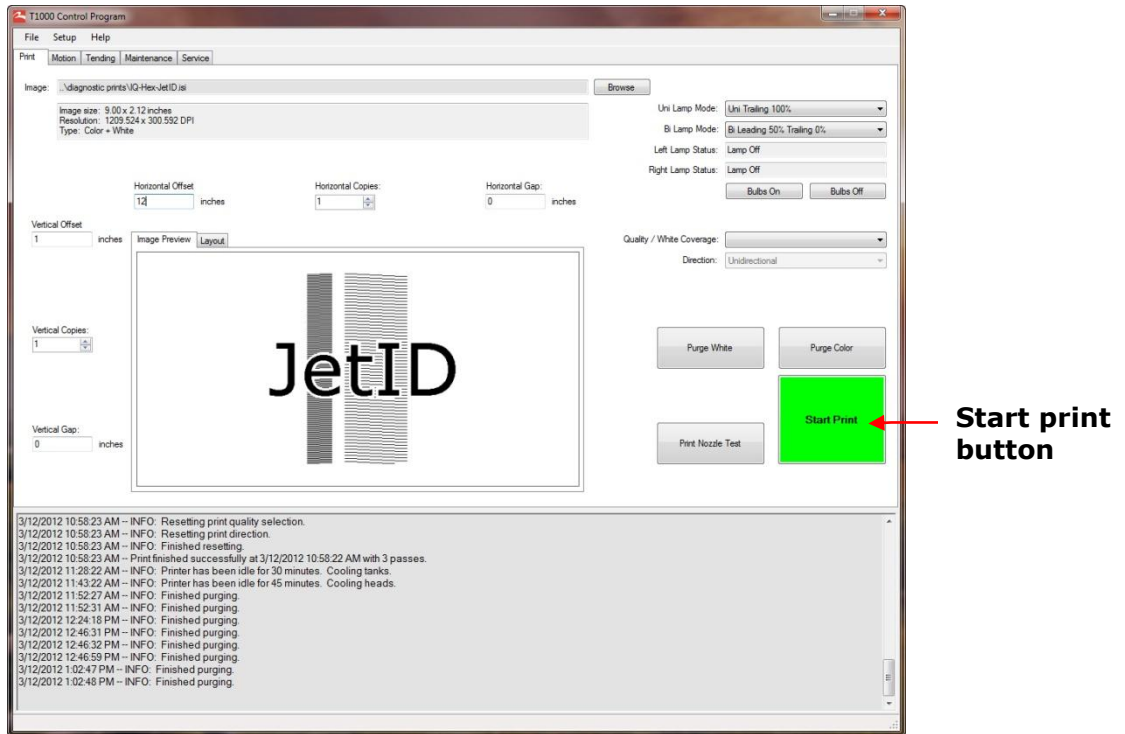

Figure 3: T1000 Control Program: Nozzle Test 1
3. Click the **Print Nozzle Check** button in the T1000 Control Panel. Adjust the position and click **Start Print**. This will start printing the nozzle checks for all colors. See Figure 3.